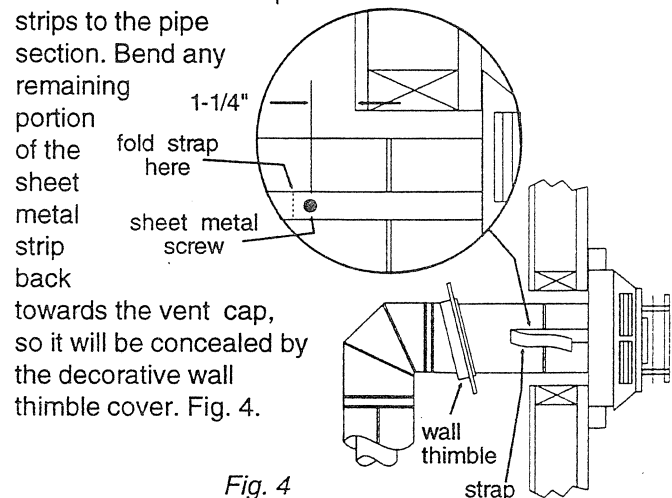

Fig. 4
- 6) Slide the appliance and vent assembly towards the wall carefully inserting the vent pipe into the vent cap assembly. It is important that the vent pipe extends into the vent cap sufficient distance so as to result in a minimum pipe overlap of 1-1/4 inches. Secure the connection between the vent pipe and the vent cap by attaching the two sheet metal strips extending from the vent cap assembly into the outer wall of the vent pipe. Use the two sheet metal screws provided to connect the strips to the pipe section. Bend any remaining portion of the sheet metal strip back towards the vent cap, so it will be concealed by the decorative wall thimble cover. Fig. 4.